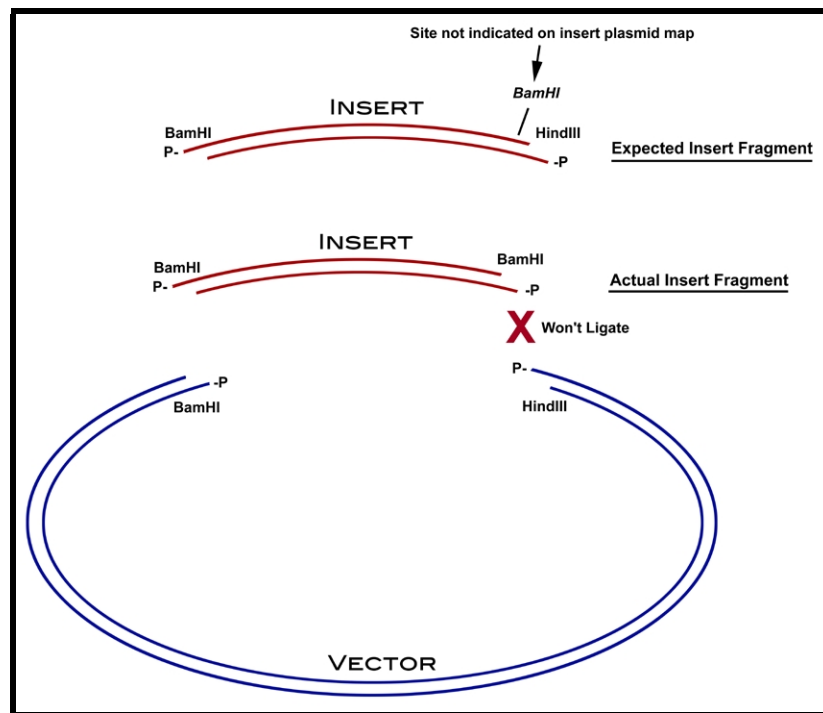

Figure 1
7) There is a mistake in the strategy or the map for the insert plasmid has inaccuracies. This is much more common than most investigators realize and explains more than half of the cloning problems encountered in our technical services department. Plasmid map errors are most likely in plasmids obtained from other investigators and with plasmids where the insert has been transferred multiple times into a succession of different plasmid polylinkers. An example of the most common situation is shown in figure 1. In this case, there is a second BamHI site immediately inside the HindIII site which is mistakenly omitted on the map. Although the insert plasmid is cut with BamHI and HindIII, the excised fragment is a BamHI/BamHI fragment which migrates at the expected size of the BamHI/HindIII fragment but which cannot be inserted into the BamHI/HindIII cut vector.
Solution. If this possibility is suspected, it may be a good idea to sequence across the ends of the insert plasmid. You can also carry out a diagnostic digest to help address whether the scenario in figure 1 is a problem. In this case, the insert plasmid should be digested with HindIII alone, with BamHI alone and with HindIII and BamHI. If either the HindIII digest or the BamHI digest yields a fragment that is the same size as the HindIII/BamHI fragment, this is likely the problem. Note, however, that it is still possible that the second BamHI site is outside the HindIII site in which case the cloning strategy should still work. To definitively assess the location of the second BamHI site, it would be necessary to sequence across this region. If it is determined that this is the problem, a new strategy should be developed.